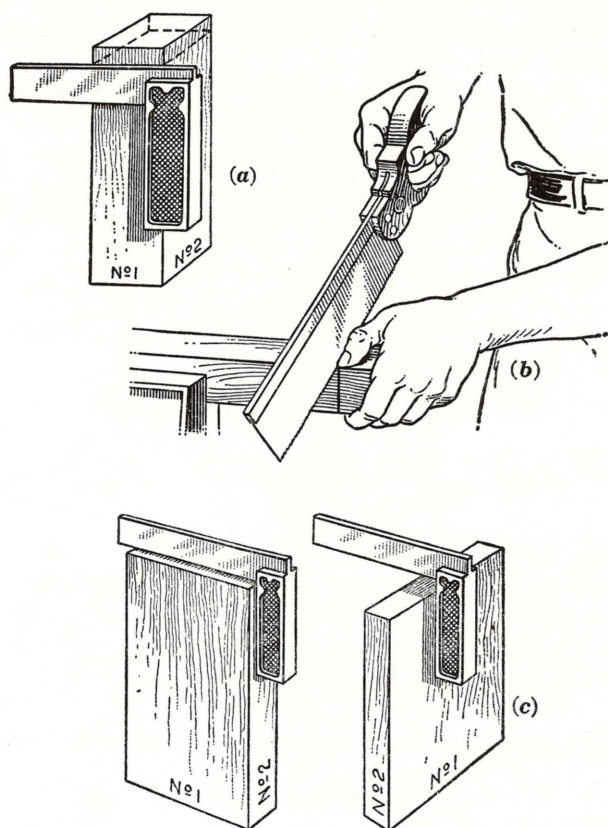

Fig. 27—Squaring an end. (a) Drawing the guide line. (b) Sawing with a back saw. (c) Testing for squareness
3. Saw the best end square. Draw a line around the piece near one end to use as a guide in sawing. A try square must be used to make a squared line around the piece. Use a knife to make the lines. The lines must meet. Mark this end No. 3. (See Fig. 27.) If the end is already square, omit this step.
There are three methods of planing an end. Use the method which meets the situation best. (See Figures 27, 28 and 29.)